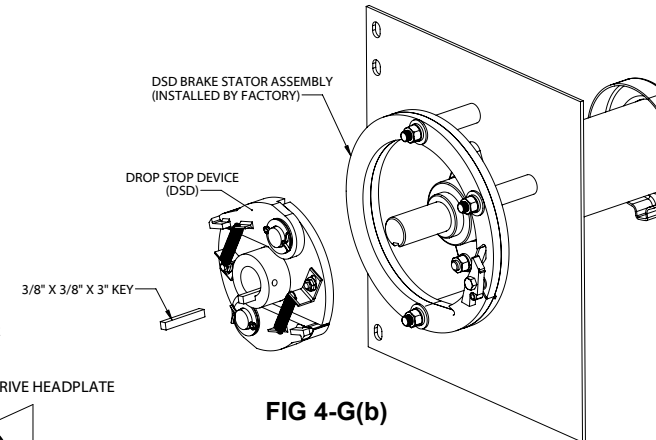

FIG 4-G(b)
8. MOUNT BRACKETS AND BARREL ASSEMBLY, Fig. 4-F